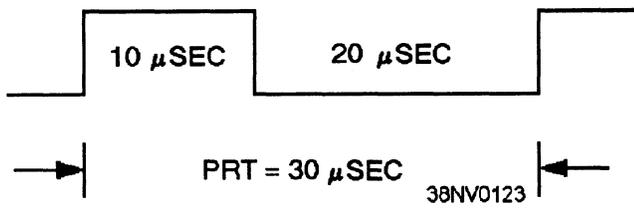

Figure 4-8.—Example of pulse-repetition time (PRT).
- **Pulse-repetition time (PRT)** —The PRT of a signal refers to the time period from the starting point of a repeating waveshape until the starting point of the next repetition. Refer to figure 4-8 for an example measurement.
Using figure 4-8, we can calculate the PRF. Since the PRT is 30 msec, then using the formula would give: $PRF = 1/PRT = 1/30 \text{ msec} = 33 \text{ kHz}$.